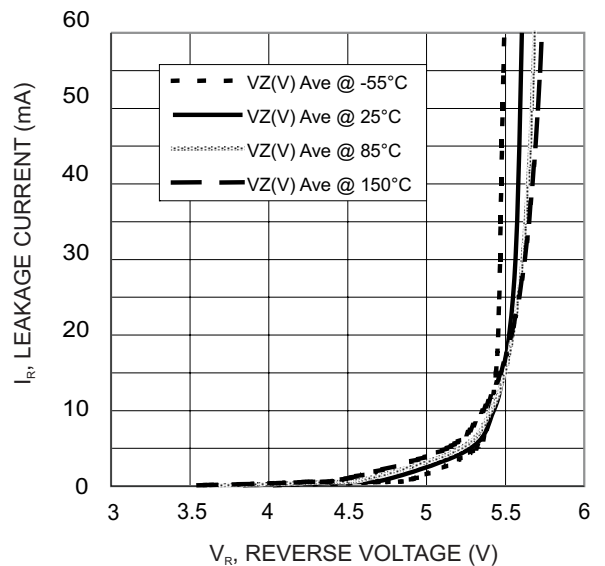

Fig. 9 Typical Reverse Characteristic
e.g. If  $I_{pp}=1A$ ,  $V_{CL} = V_z + R_d * I_{pp} = 5.6 V$  (from fig. 9) +  $1A * 0.115 \text{ Ohm} = (5.6 + 0.115)V = 5.715 V$  (close to actual measured Value)